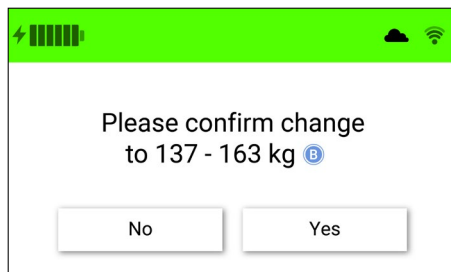

Figure 42. Weight change confirmation screen
1. If user selects to change patient's weight by more than one weight range, a confirmation of weight selection will be required. (Fig. 42)